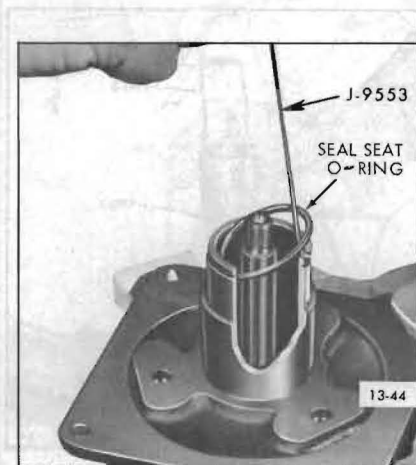

Figure 13-44—Removing Seal Seat "O" Ring
8. Take out seal seat "O" ring (see Figure 13-44) from inside hub of front head using "O" ring remover (J-9553).